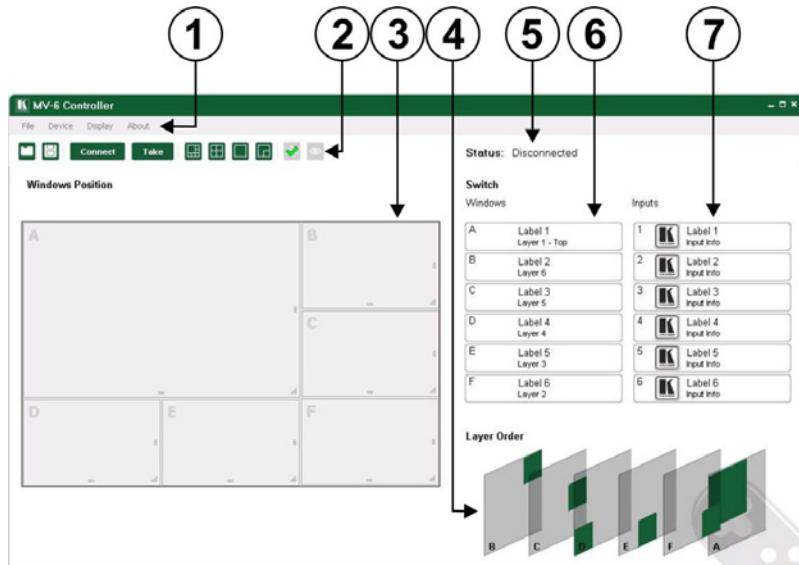

Figure 6: MV-6 Controller Software Main Window
To install the Controller software, download the software and run the setup file. After installation, running the Controller software for the first time displays a window similar to that shown in Figure 6.
- If the connection is successful, the main window shown in Figure 6 appears. If the connection is not successful, a Timeout error message appears.